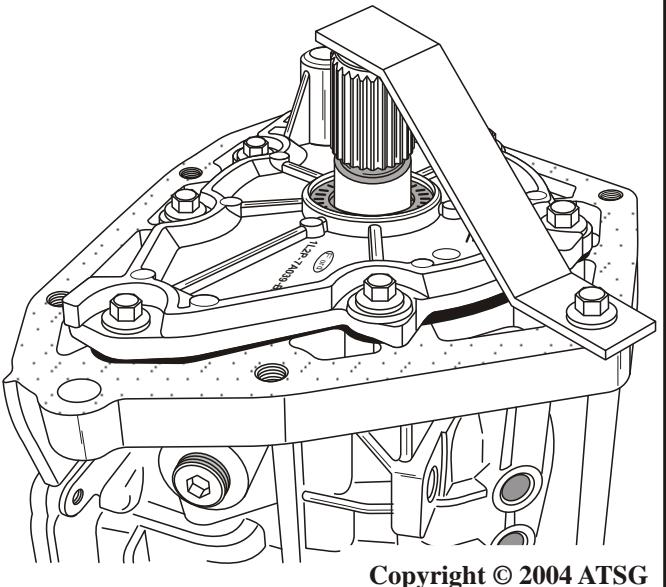

Figure 139
7. Install the temporary holding strap, as shown in Figure 139, to retain the output shaft in the transmission intill snap ring is installed.